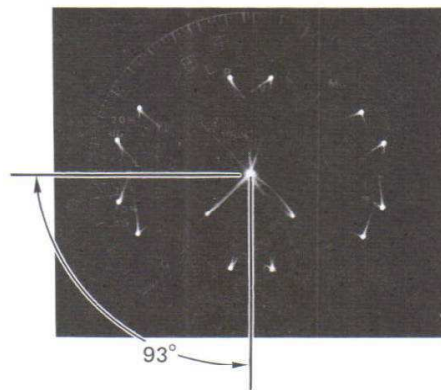

Fig. 4-2-9
- Adjust VR8 so that burst phase delays 93° as shown in Fig.4-2-9.